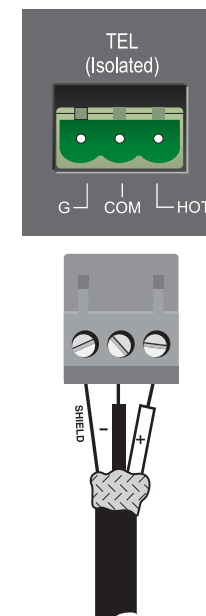

Figure 2.5 Tel (Isolated) Connector Wiring to Telephone System Interface or PBX
- **Transformer-isolated 600-ohm input:** 3-pin Phoenix-type. Summed into Input 1 for paging from a telephone system. See Figure 2.5.